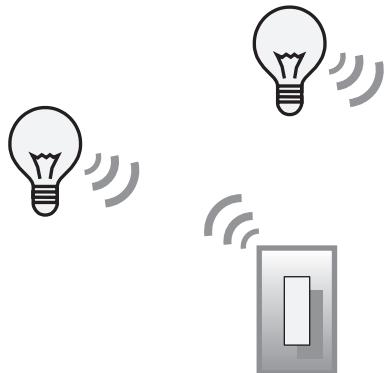

Figure 1.12: HA Lights and Switch
This second example is similar to the first, but rather than simply binding (connecting the wireless wire) to any light arbitrarily, it gives the installer (you) the option of which light(s) to bind to (see Figure 1.12). It also uses three nodes, rather than two, one of each ZigBee node type: A ZigBee Coordinator (ZC), which is used to form the network, a ZigBee Router (ZR) which can route packets, and a ZigBee End-Device (ZED), which can sleep and go into low-power modes.